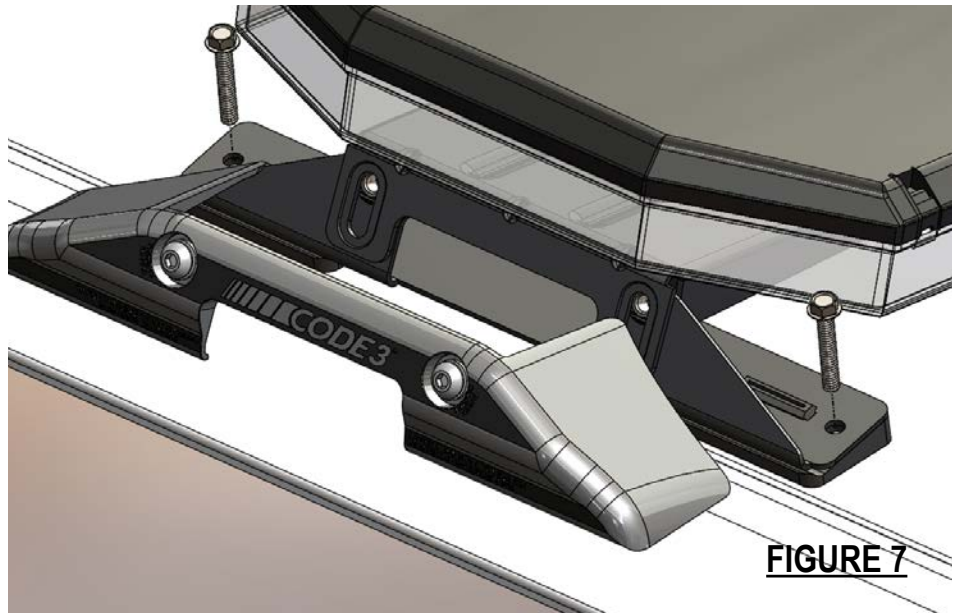

FIGURE 7
2. Place the lightbar on the vehicle and mark the holes that will attach the mounting feet. The holes in the mounting foot are sized for 1/4" hardware but can be drilled for larger sizes. See Figure 7.